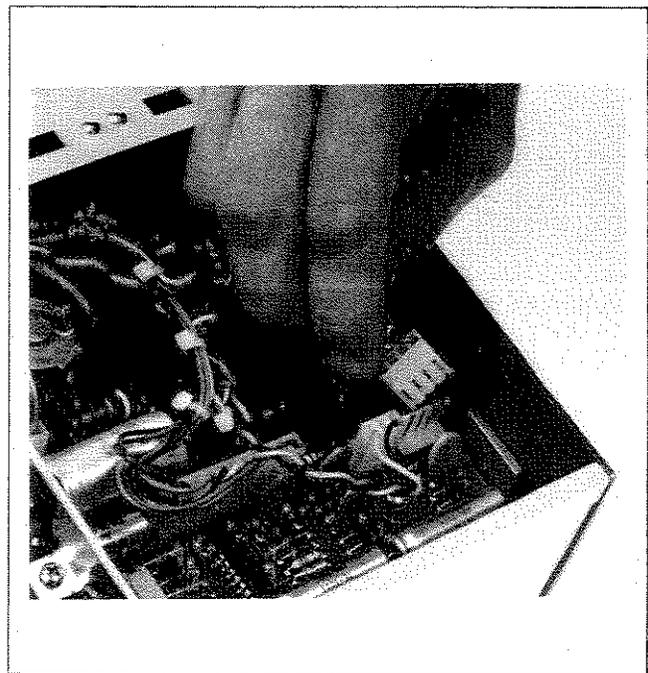

Figure 8-2. Autogrip Table Removal
- c. Autogrip Table — to perform maintenance on X drive cable assembly, X drive gear, etc., set machine on edge. Remove bottom cover and remove connector A1J5 (has two red wires) from power board (part number 07010-20300). See Figure 8-2. Remove four screws securing the Autogrip table. Slide the pen carriage to the left, and ease platen up and out on the right side.